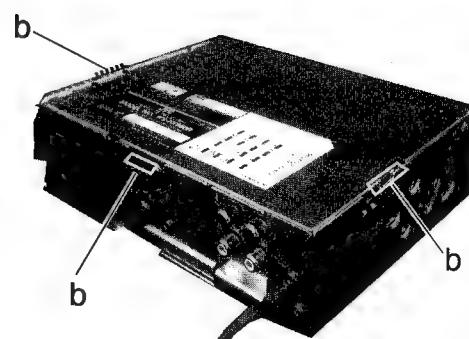

Fig 5
(See fig 5)
■ Removing the Pinch Roller Assembly (See Fig. 5,6)